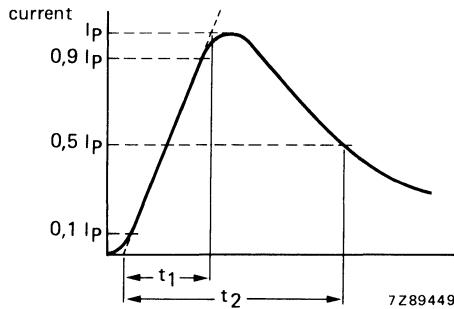

Fig. 5.
6. High energy surges are generally of longer duration. The max. energy for 1 minute 10/1000 μ s is given as a reference for long duration impulses. This impulse can be characterized by peak current I_p and impulse width t_2 (virtual time to half I_p value, defined in IEC 60-2 section 6), see Fig. 5. If V_p is the clamping voltage corresponding to I_p , the energy absorbed in the VDR is determined by equation $E = K \cdot V_p \cdot I_p \cdot t_2$; K depends on t_2 . When t_1 is 8 to 10 μ s and $t_2 = 20 \mu$ s, $K = 1$; when $t_s = 50 \mu$ s, $K = 1,2$; when $t_2 = 100 \mu$ s, $K = 1,3$; when $t_2 = 1000 \mu$ s, $K = 1,4$.